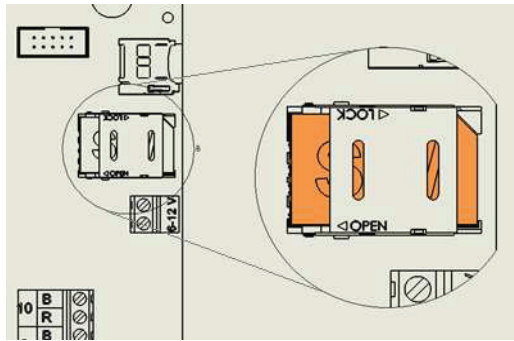

Figure 16: Correctly Inserted SIM Card
4. Slide the SIM card case cover to the side to open it, as indicated by the arrow labeled OPEN (see Figure 16).
7. Hold the SIM card case cover down while you slide the cover to the side, as indicated by the arrow labeled LOCK (Figure 16).